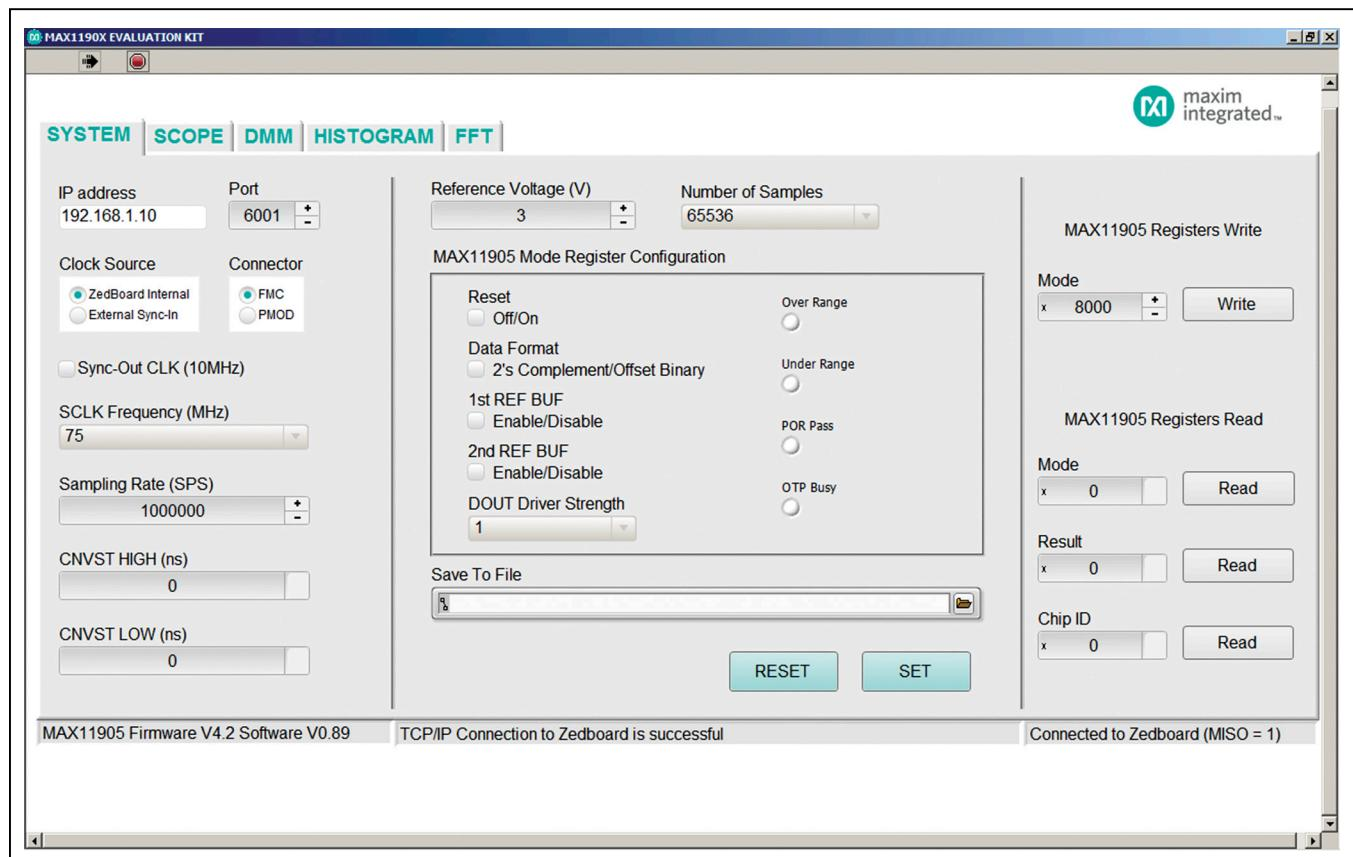

Figure 1. MAX1190X EV Kit Main Window (SYSTEM tab sheet)
- 21) Open the EV kit GUI and click on the **run arrow (→)** button at the top of the GUI screen (see Figure 1).
When all connections are made on the system and are fully powered, the **SYSTEM** tab sheet displays the correct IP address, port, and the lower status bar displays as shown Figure 1. These are all indicators that the system and GUI are ready for communication.